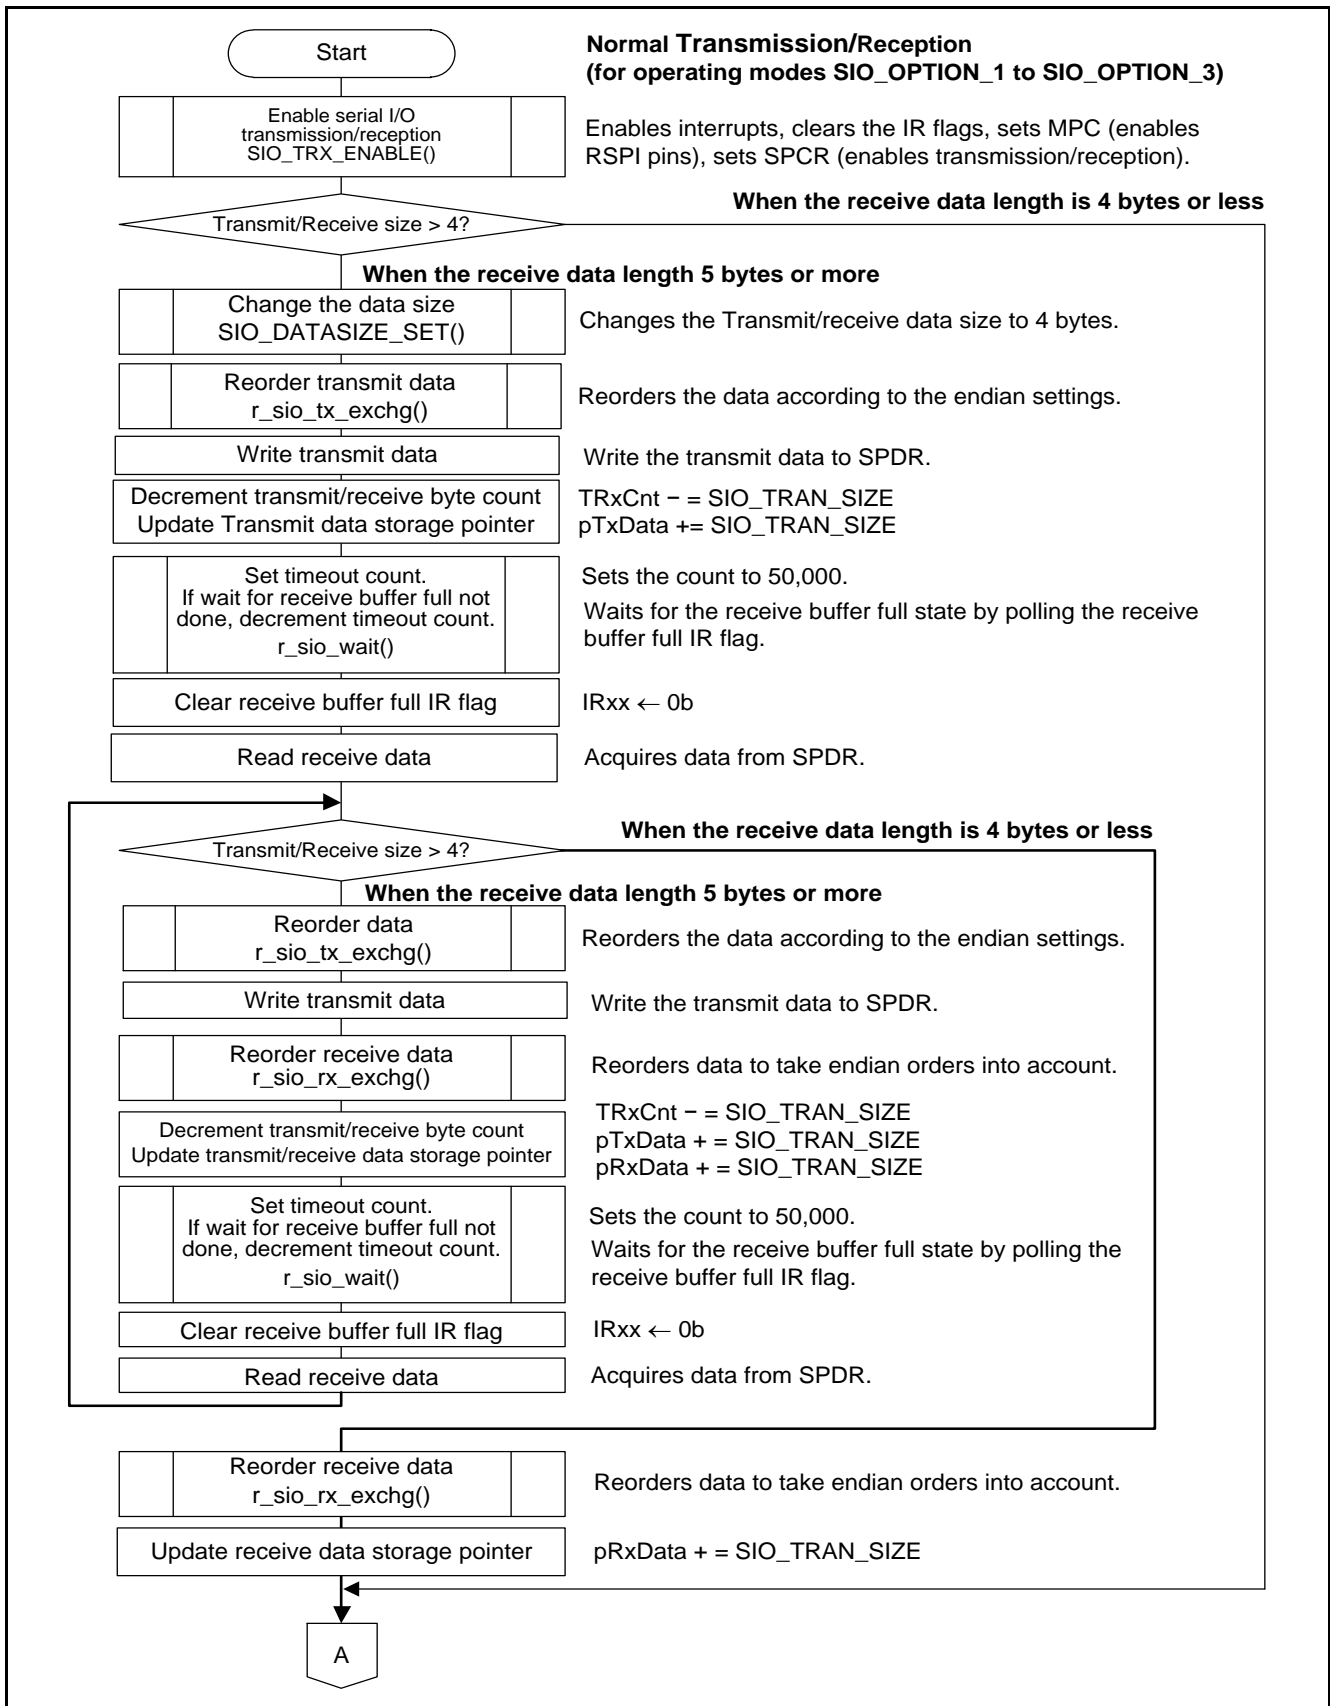
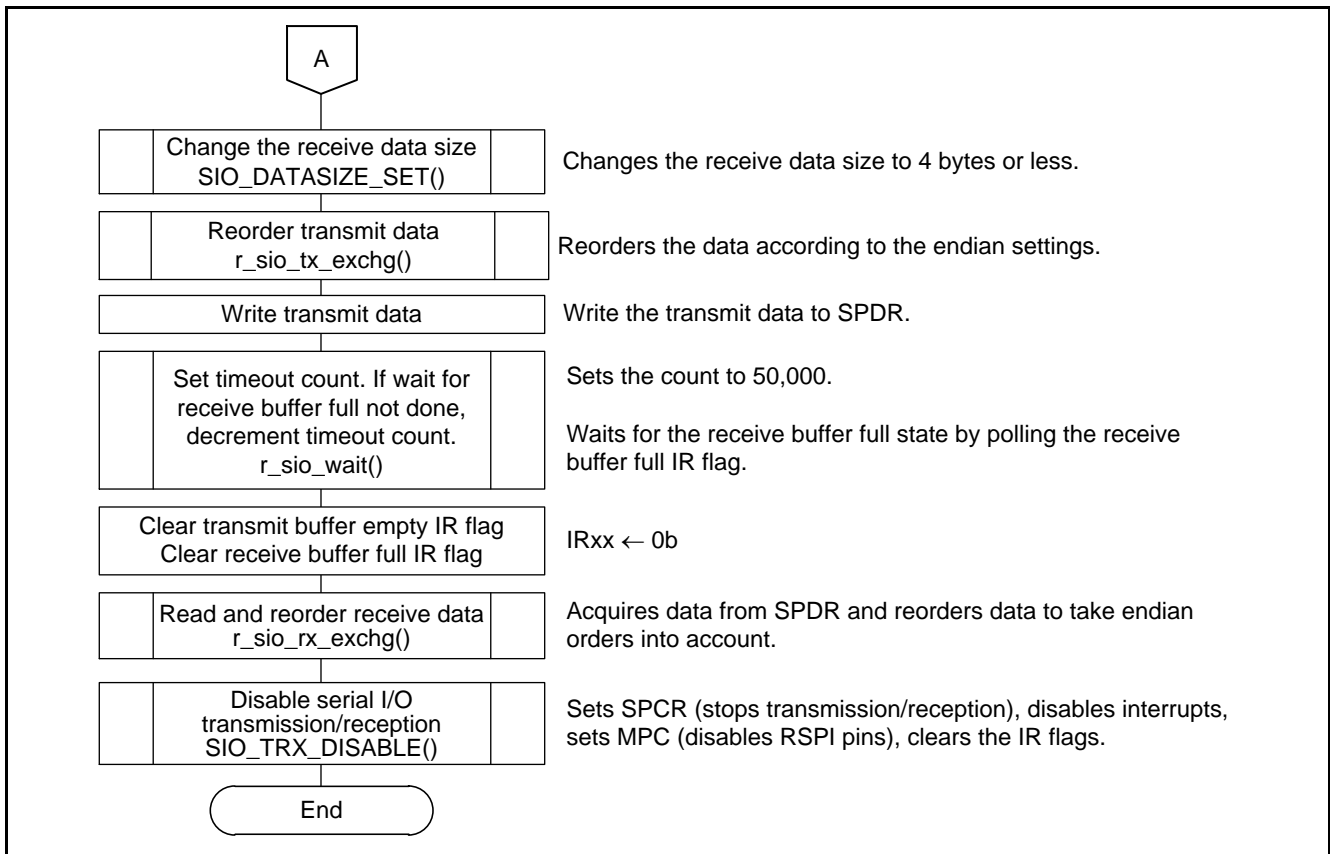
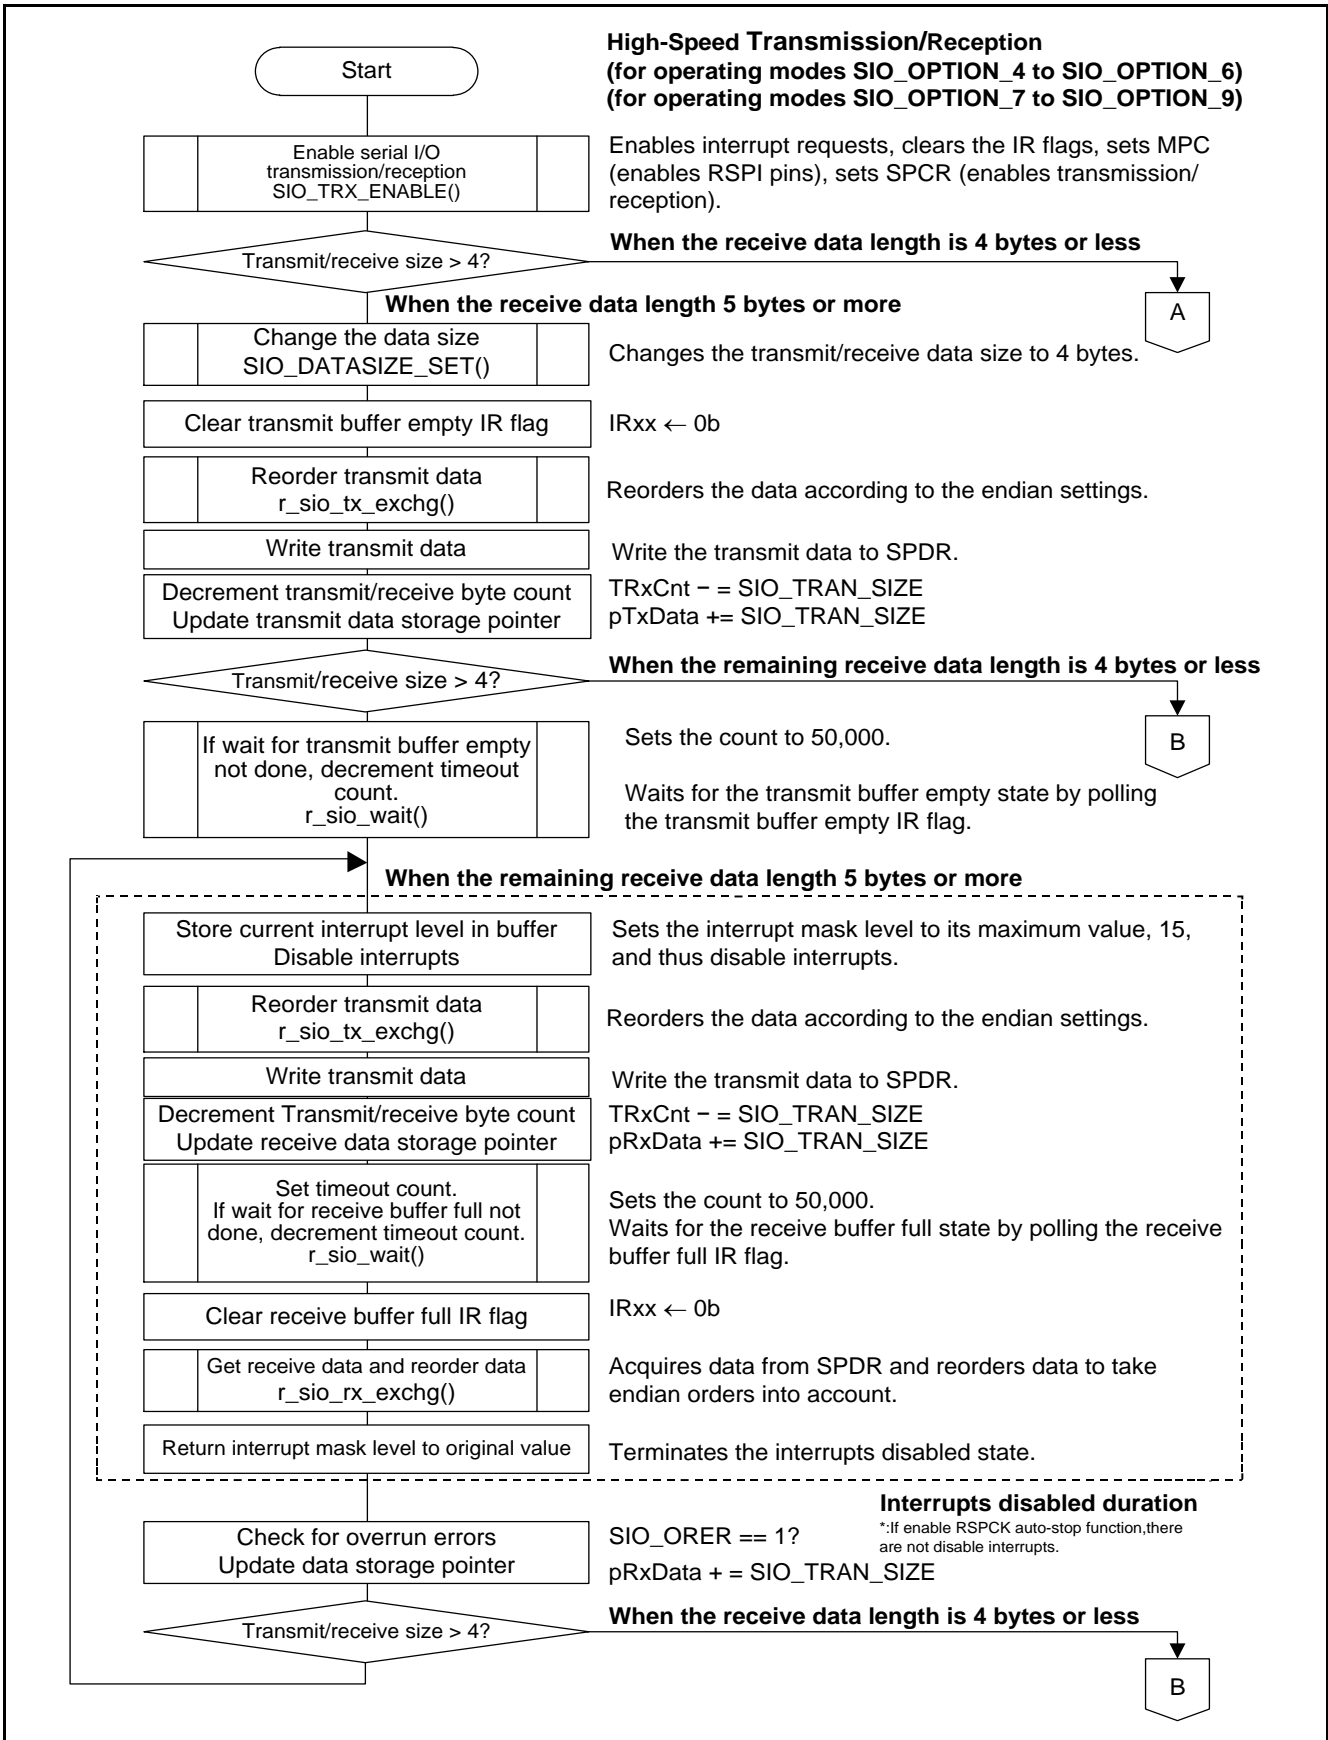
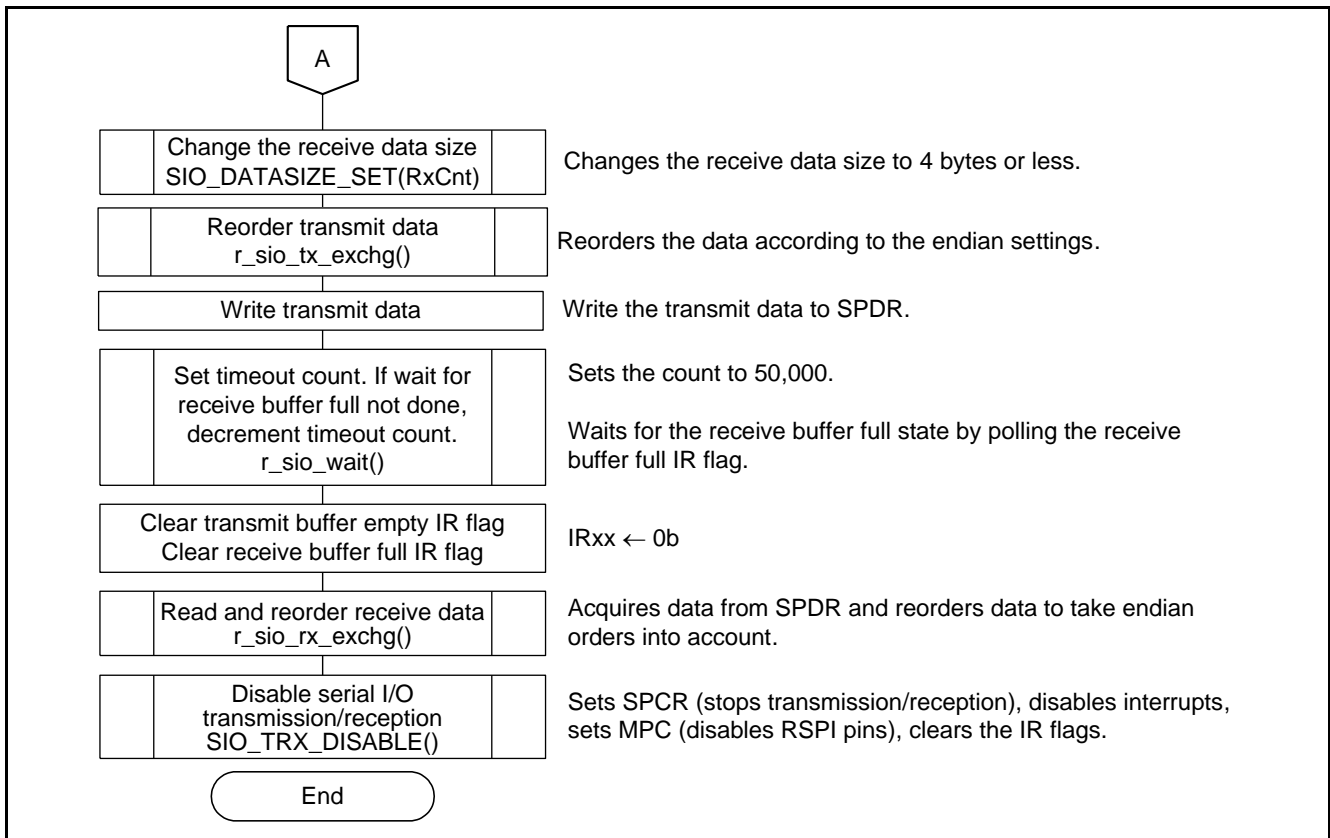

Figure 6.16 Serial I/O Data Transmission/Reception Processing Outline 1 (Normal)
Figure 6.17 Serial I/O Data Transmission/Reception Processing Outline 2 (Normal)
Figure 6.18 Serial I/O Data Transmission/Reception Processing Outline 3 (High-Speed)
Figure 6.19 Serial I/O Data Transmission/Reception Processing Outline 4 (High-Speed)
Description	<p>Transmits the specified number of bytes of data from pData and receives the specified number of bytes of data and stores it in pData.</p> <p>The serial I/O enable setup processing must be performed prior to calling this function. The serial I/O disable setup processing must be performed if the result of this function indicates that an error occurred.</p> <p>Either normal transmission/reception or high-speed transmission/reception may be selected. For the selection method, see section 7.2.2, R_SIO_rsipi.h (1) for the definitions of the operation modes used.</p> <p>An overview of normal transmission/reception is shown in figure 6.16, Serial I/O Data Reception Processing Outline — 1 (Normal) and figure 6.17, Serial I/O Data Transmission/Reception Processing Outline — 2 (Normal).</p> <p>An overview of normal Transmission/reception is shown in figure 6.18, Serial I/O Data Transmission/Reception Processing Outline — 3 (High-Speed) and figure 6.19, Serial I/O Data Transmission/Reception Processing Outline — 4 (High-Speed).</p>